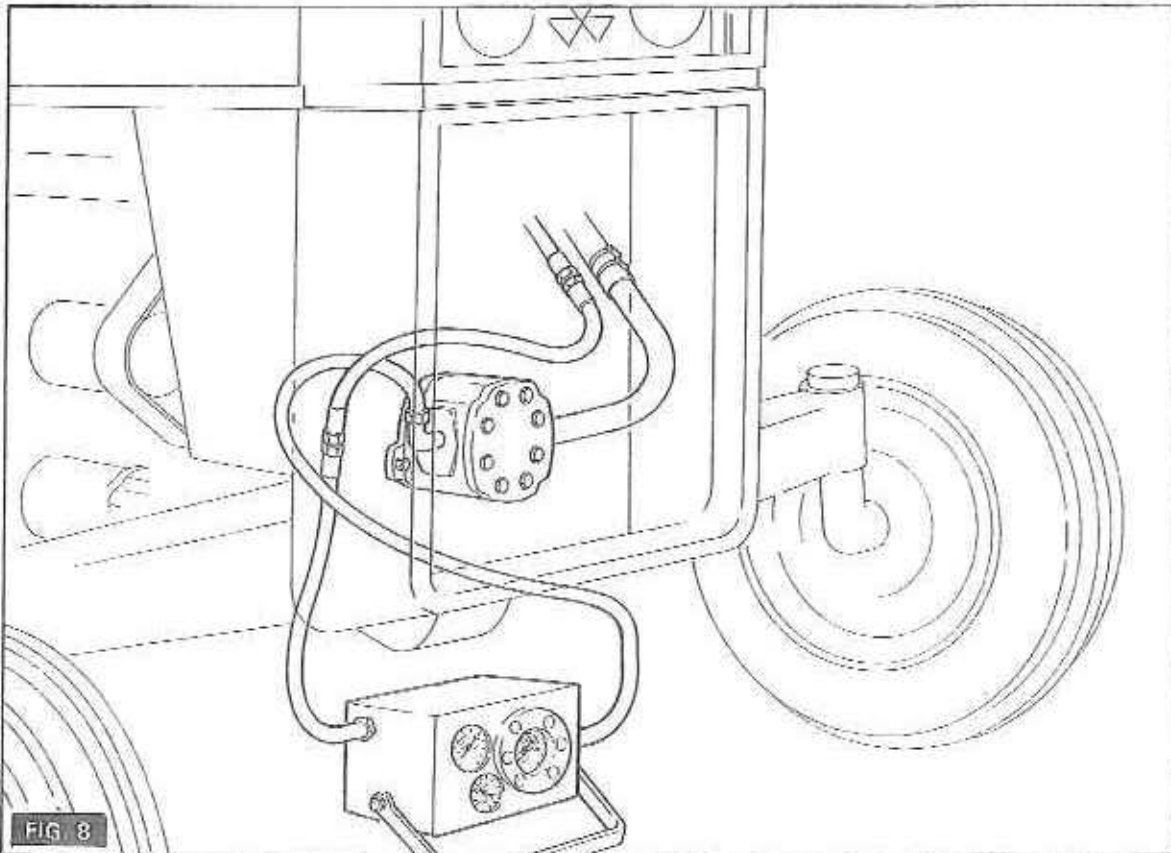

FIG 8
5. (Fig. 8). Remove the radiator grille, disconnect the pressure hose from the pump and connect the flow meter into the circuit as shown. The circuit is now continuous. Check all connections for tightness.